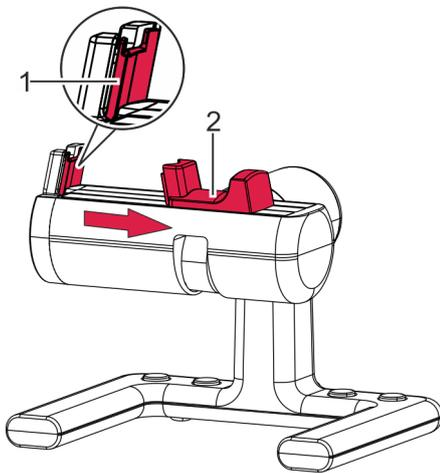

Fig. 22: Microphone clamping jaw
1. ➔ Pull the clamping jaw (Fig. 22/2) outwards.
2. → Place the watch onto the clamping area so that the crown of the watch is positioned against the signal sensor (Fig. 22/1). Carefully release the clamping jaw.
3. → Place the clockwork onto the clamping area so that the crown is positioned above the signal sensor (Fig. 22/1). Carefully release the clamping jaw.